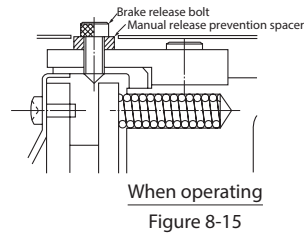

Figure 8-15
- (2) After releasing the brake, to return it to its original condition, for safety, return the manual release prevention spacers that were removed in (1) to their original positions. (See Figure 8-15)
- (3) This table show brake release bolt sizes.